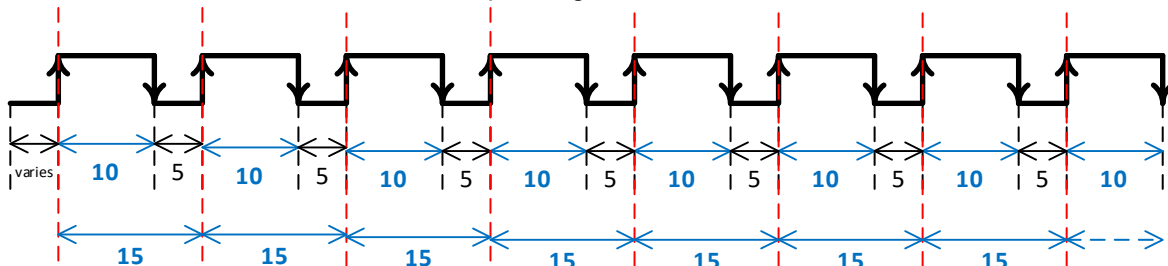
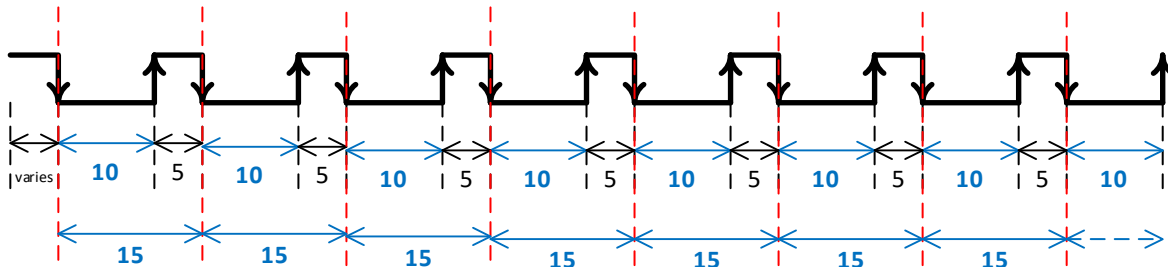

Figure 12 - PWM Continuous Output
Figure 13 - PWM Continuous Output
Figure 12 and Figure 13 illustrate the PWM Continuous Output signal, one configured with PWM Output Polarity = Positive (0) and one configured with PWM Output Polarity = Negative (1). The configured PWM output is enabled and disabled with the *Enable Measurements/Outputs* register.